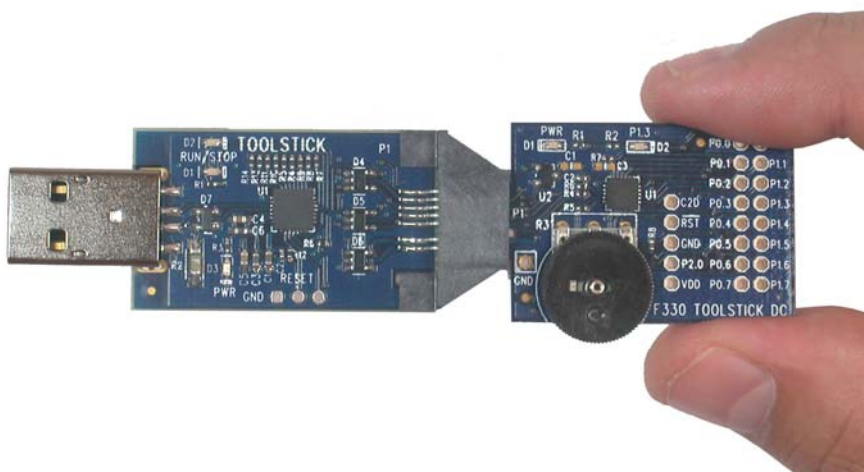

Figure 1. Proper Method of Holding the ToolStick
- Always connect and disconnect the ToolStick Base Adapter from the PC by holding the edges of the boards as shown in Figure 1.